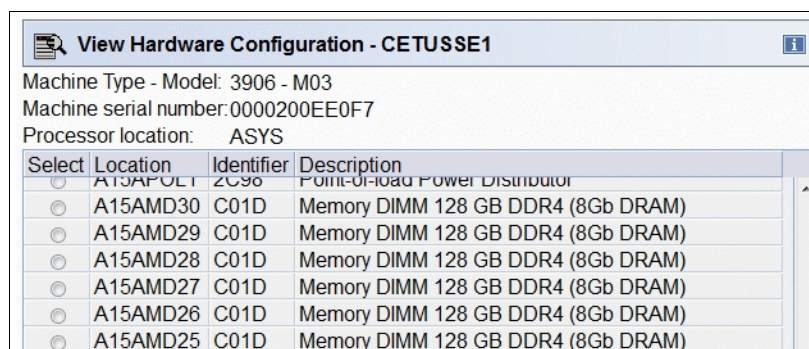

Figure 2-21 View Hardware Configuration task on the Support Element
- The support element View Hardware Configuration task can be used to determine the size and quantity of the memory plugged in each drawer. Figure 2-21 shows an example of the location and description of the installed memory modules.